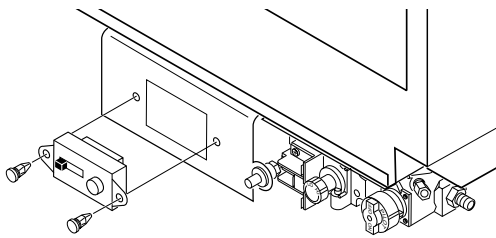

Figure 50 - Installing Remote Receiver
- Place receiver into valve bracket and align holes (see Figure 50).